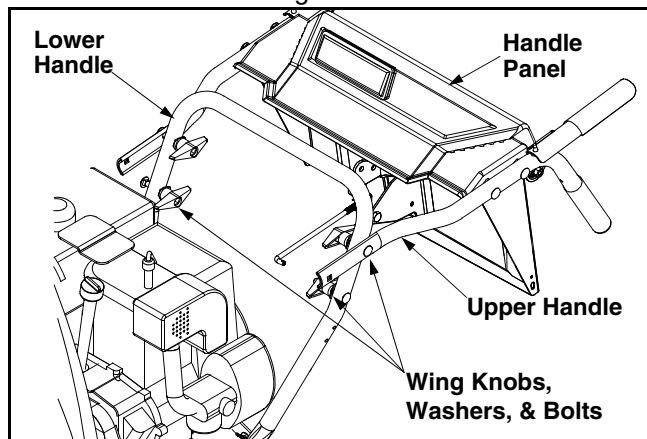

Figure 2
- Remove the lower two plastic wing knobs, cupped washers and carriage bolts from each side of the lower handle. See Figure 2.